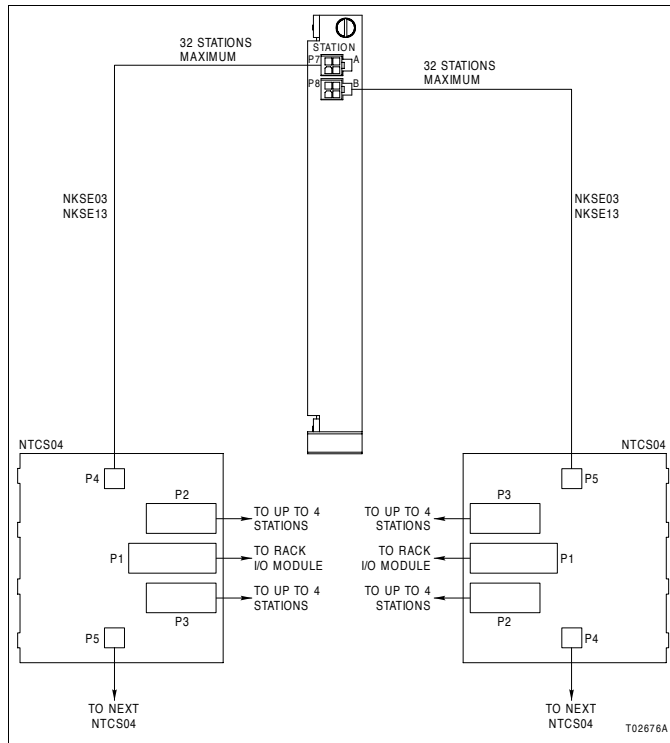

Figure PR14-1. Station Link Cable Connection
- 1. Connect the four-pin connector end of the NKSE03 or NKSE13 cable to the P7 connector on the communications termination unit (Fig. PR14-1).